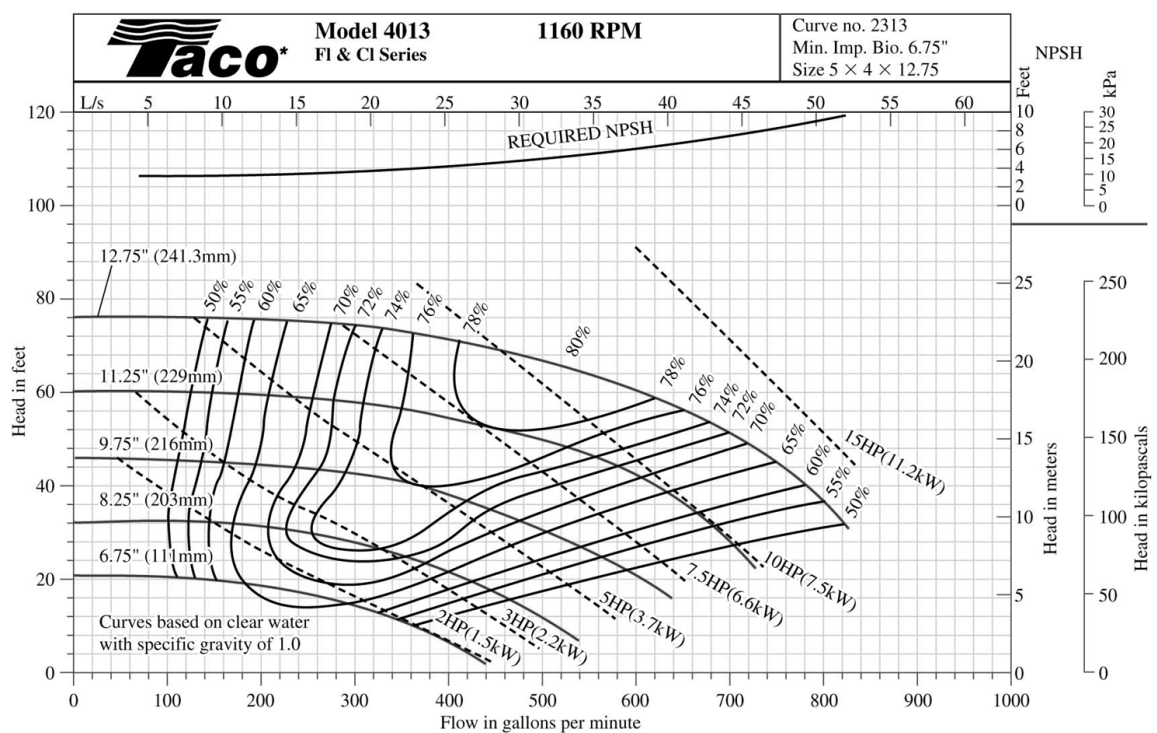

Figure 5
- (e) Referring to Figure 5, state **FIVE (5)** pump options.